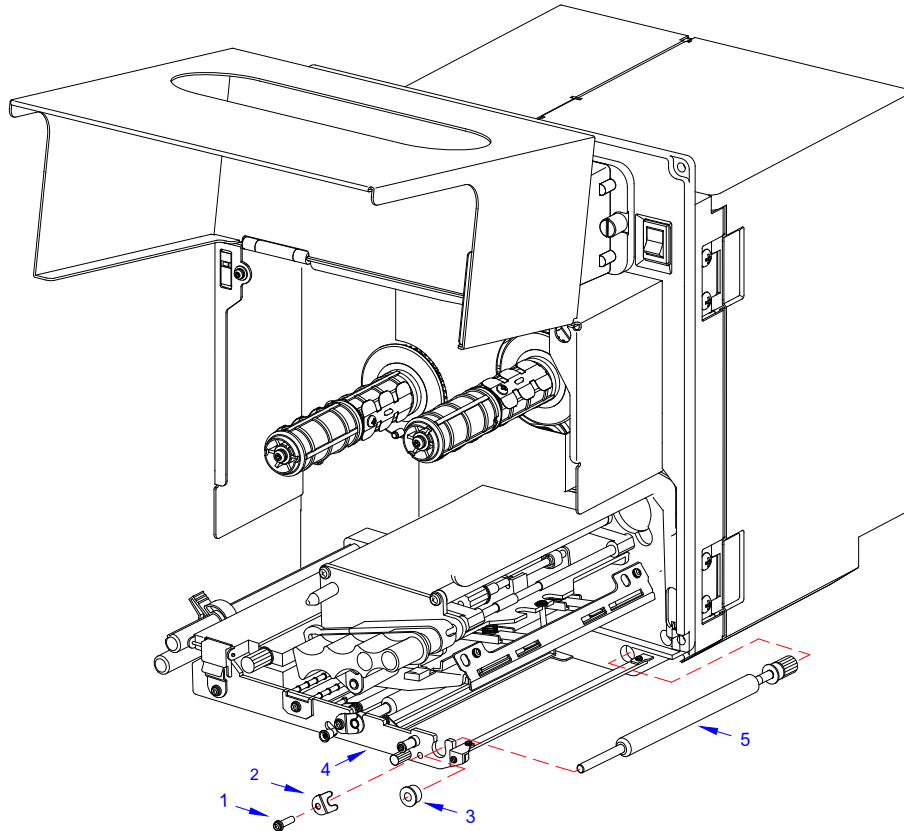

Figure 6-3, Platen Roller Replacement
3. Loosen screw (1, Figure 6-3) sufficiently to rotate bearing clamp (2) from bearing (3).
NOTE: Figure 6-3 shows screw (1) and bearing clamp (2) as being removed for display purposes only. It is not necessary to remove those components for roller replacement.
4. Withdraw bearing (3) from chassis (4) and worn roller (5).
5. Withdraw worn roller (5) from the printer and insert replacement roller (5) in its place.
6. Insert bearing (3) onto the free end of replacement roller (5) to nest against chassis (4).
7. Rotate bearing clamp (2) onto bearing (3) and secure screw (1).